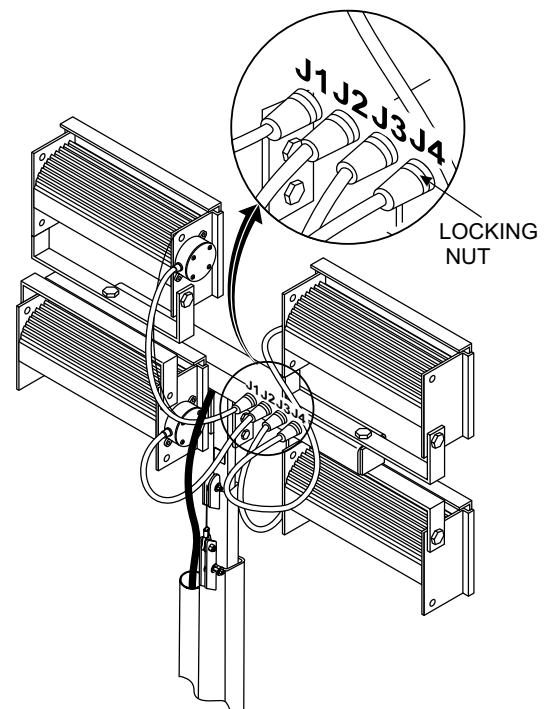

Figure 13. Cable Connectors
- d. Align the key tab (B) on the male connector with the slot or key (A) on the female connector and press together until fully seated.
- e. Secure the connector by screwing the knurled locking nut of the male connector to the threaded portion of the female connector to ensure good contact between the two connectors. See Figure 13.